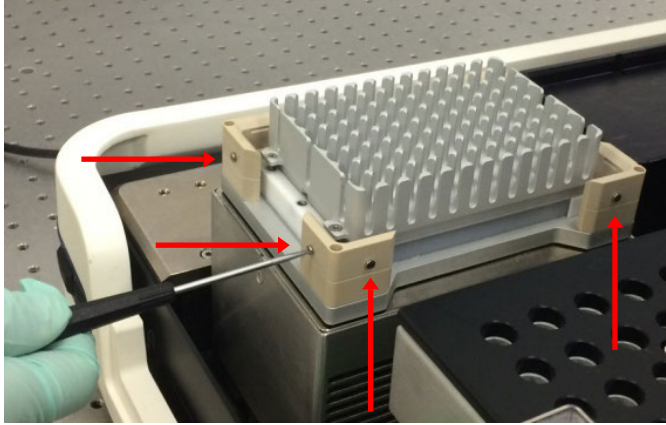

Figure 5 Grub screws on the Thermoshake device.
- ① Locations for the 3 screws to fasten the adapter plate to the Thermoshake device.
3. Using the slotted screwdriver, tighten the 8 grub screws, 2 at each corner, found at the top of the Thermoshake device (Figure 5).